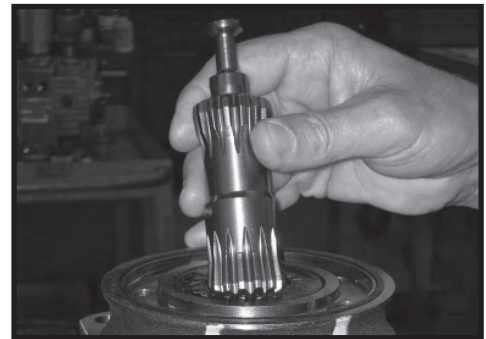

Figure 17
**NOTE:** If rotor set (8) has two stator halves (8B & 8D) and two sets of seven vanes (8C & 8E) as shown in the alternate construction TG rotor set assembly view, check the rotor lobe to roller vane clearance at both ends of rotor.
- 12. Remove drive link (10) from coupling shaft (12) if it was not removed with rotor set and wear plate. Inspect drive link for cracks and worn or damaged splines. No perceptible lash (play) should be noted between mating spline parts. SEE FIGURE 17. Remove and discard seal ring (4) from housing (18).